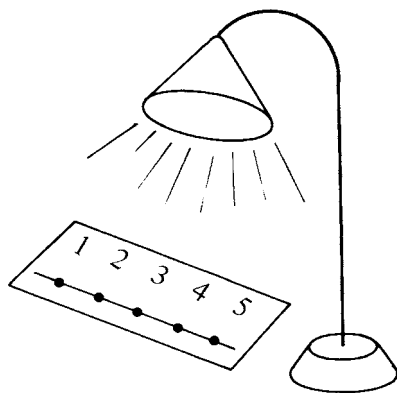

Figure 23.5
6. Return to the first capillary and apply more extract on top of the spots at positions marked 3 and 4 as you did before. Let them dry (Figure 23.5).